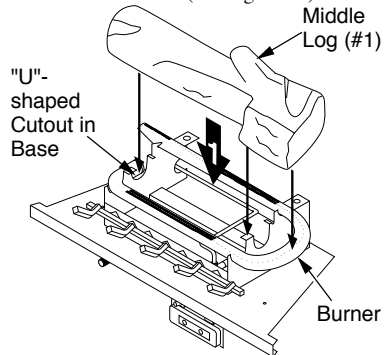

Figure 45 - Installing Middle Log (#1)
1. Place the base of the middle log (#1) in the U-shaped slots of the grate base. The cutout on the right of the middle log should fit over the burner (see Figure 45). Make sure the front of the middle log is resting on the tabs of the grate base and the cutout area is centered over the burner "U" bend.